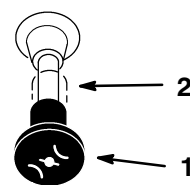

Figure 11
7. After the engine starts, gradually move the choke to “OFF” (Fig. 11). If the engine stalls or hesitates, move the choke back to “ON” for a few seconds. Then move the throttle lever to desired setting. Repeat this as required.